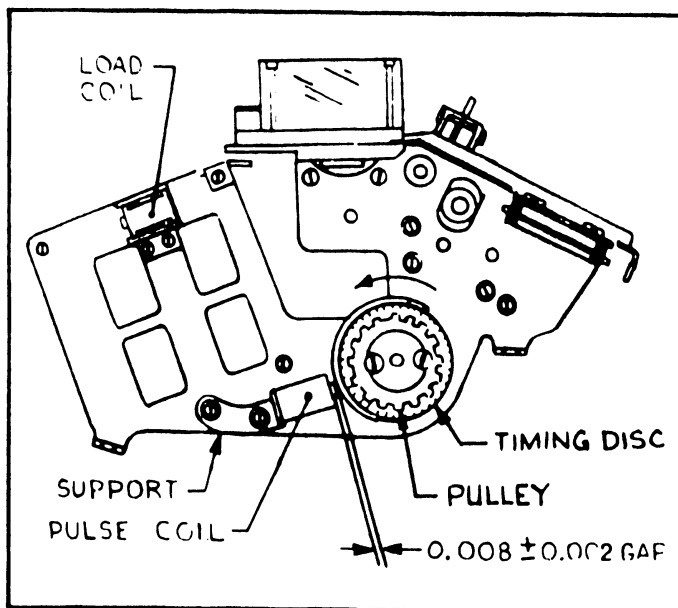

Figure 3.14 Timing Pulse Generator
When the timing disc at one end of the input shaft interrupts the magnetic flux produced by current flow through the solenoid, it generates a timing pulse. The pulse coil is mounted adjacent to the timing disc and its load coil is mounted to the same punch side frame; see Figure 3.14.
1. The gap between the timing disc and pulse coil shall be 0.008 ± 0.002 inch; see Figure 3.14. The gap shall be measured with a feeler gage while the punch is not in operation. Measurements shall be made between pulse coil pole piece and several spots along the edge of the disc at input shaft settings between 180 degrees and 360 degrees.
CAUTION: Holes in the coil support plate shown in Figure 3.14 are slotted so that the support may move toward or away from the timing disc with only a minimum amount of side play. This is required because the center of the solenoid core is the reference point for timing disc markings.